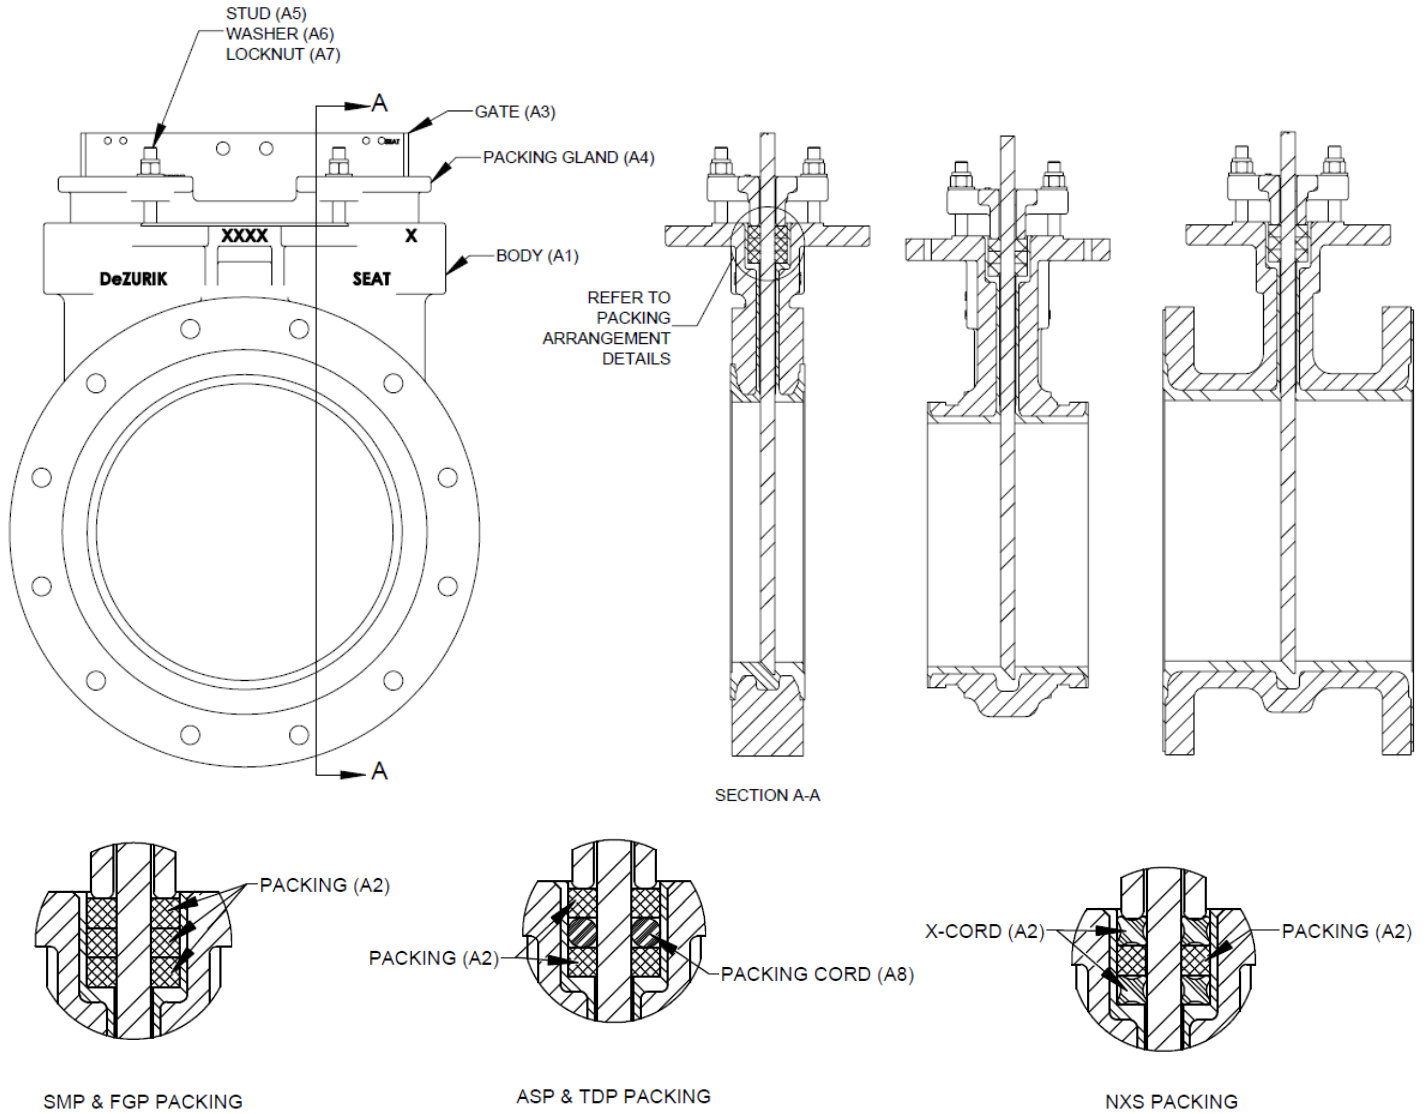

Figure 7 – Component Identification
The gate packing is contained and compressed by the packing gland. There are various packing arrangement options available for the KUL which include SMP, ASP, TDP, FGP and NXS. See Figure 7 for component identification and illustrations of the packing arrangements.
- For ASP and TDP packing arrangements with the packing cord (A8), install and pack one row of packing (A2) and then insert the packing cord (A8), followed by the last row of packing (A2). Refer to the packing arrangement illustration in Figure 7.
- For the NXS packing arrangement, install one row of the rubber X-cord (A2), ensuring that it does not twist and then insert the standard packing (A2), followed by the top rubber X-cord layer. Refer to the packing arrangement illustration in Figure 7. For NXS packing in valve sizes 2" through 16", the recommended torque on the gland nuts (A7) would be 250in·lb [29Nm]. For NXS packing in valve sizes 18" and greater, the recommended torque on the gland nuts (A7) would be 450in·lb [51Nm]. However, gland nuts should be evenly tightened to the recommended torque and, if there is leakage through the packing, increase torque gradually.
See Figure 7 for component identification.